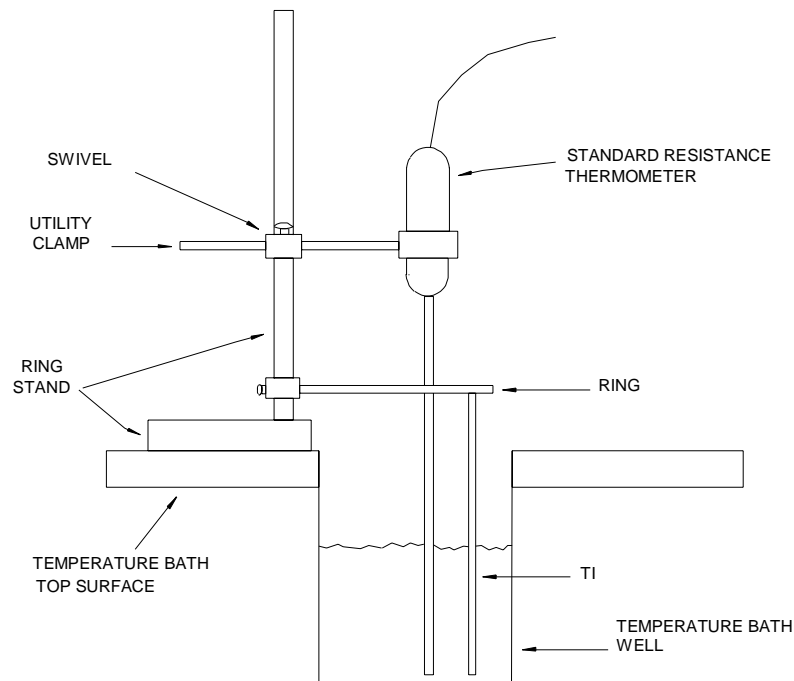

Figure 1.
4.2.1 Assemble the ring stand apparatus on top of the Temperature Bath as shown in Figure 1, using extreme caution with the Standard Resistance Thermometer. Ensure that the Thermometers and probes are submersed as deeply as possible into the Temperature Bath.